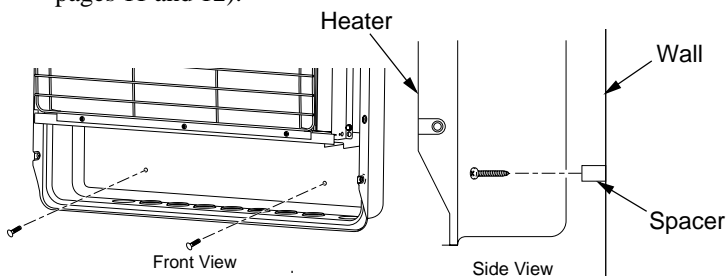

Figure 19 - Installing Bottom Mounting Screws
1. Locate two bottom mounting holes. These holes are near bottom on back panel of heater (see Figure 19).